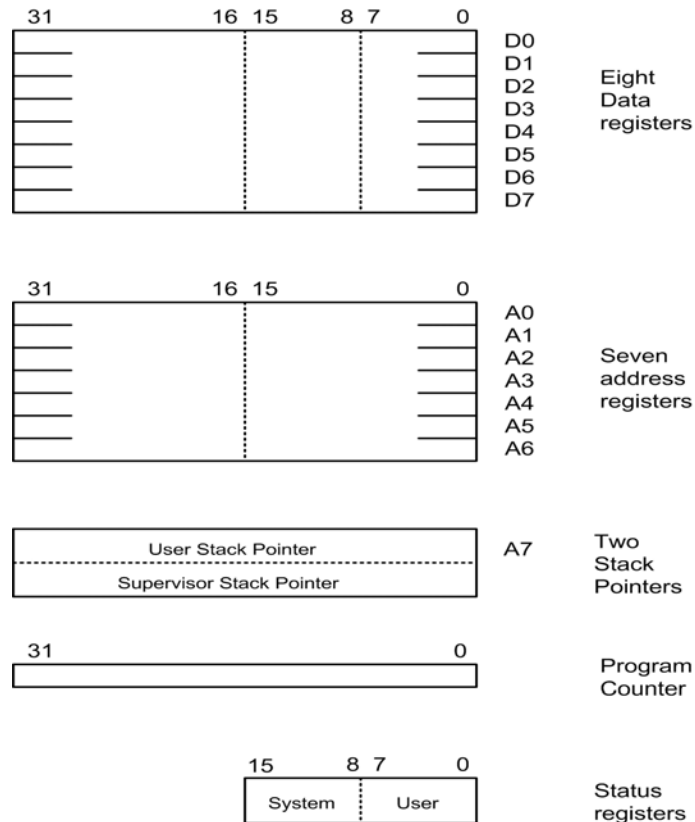

Figure 1 68000 Programming model
The MC68000 CPU have eight data registers, D0 to D7, eight address registers, A0 to A7; a program counter (PC); and status register (SR) as shown in Figure 1. All registers except for the status register are 32 bit in length. The data registers are used to store information (data) within